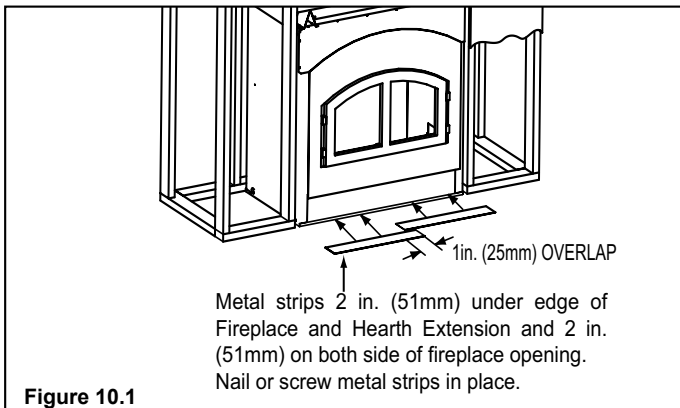

Figure 10.1
- Secure the fireplace to the floor or wall framing studs at a minimum of two attachment points to prevent further movement of the fireplace. The same holes and L brackets that attached the fireplace to the pallet may be used to secure the fireplace to the sub flooring by using a minimum of two 1/4 in. x 2 in. lag bolts or equivalent. Refer to Figure 10.1 and install the two metal hearth strips at this time.